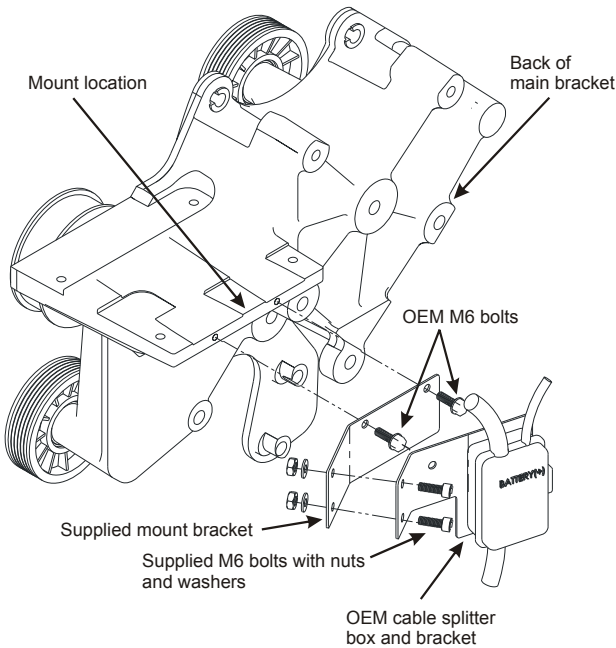

Figure 5.6
- Install the red battery cable splitter box to the back of the VR compressor bracket (Figure 5.6). The two OEM M6 bolts attach through the two top holes on the VMAC supplied bracket and the two supplied M6 x 18 mm bolts, nuts and washers attach the VMAC bracket to the OEM splitter box mount bracket.